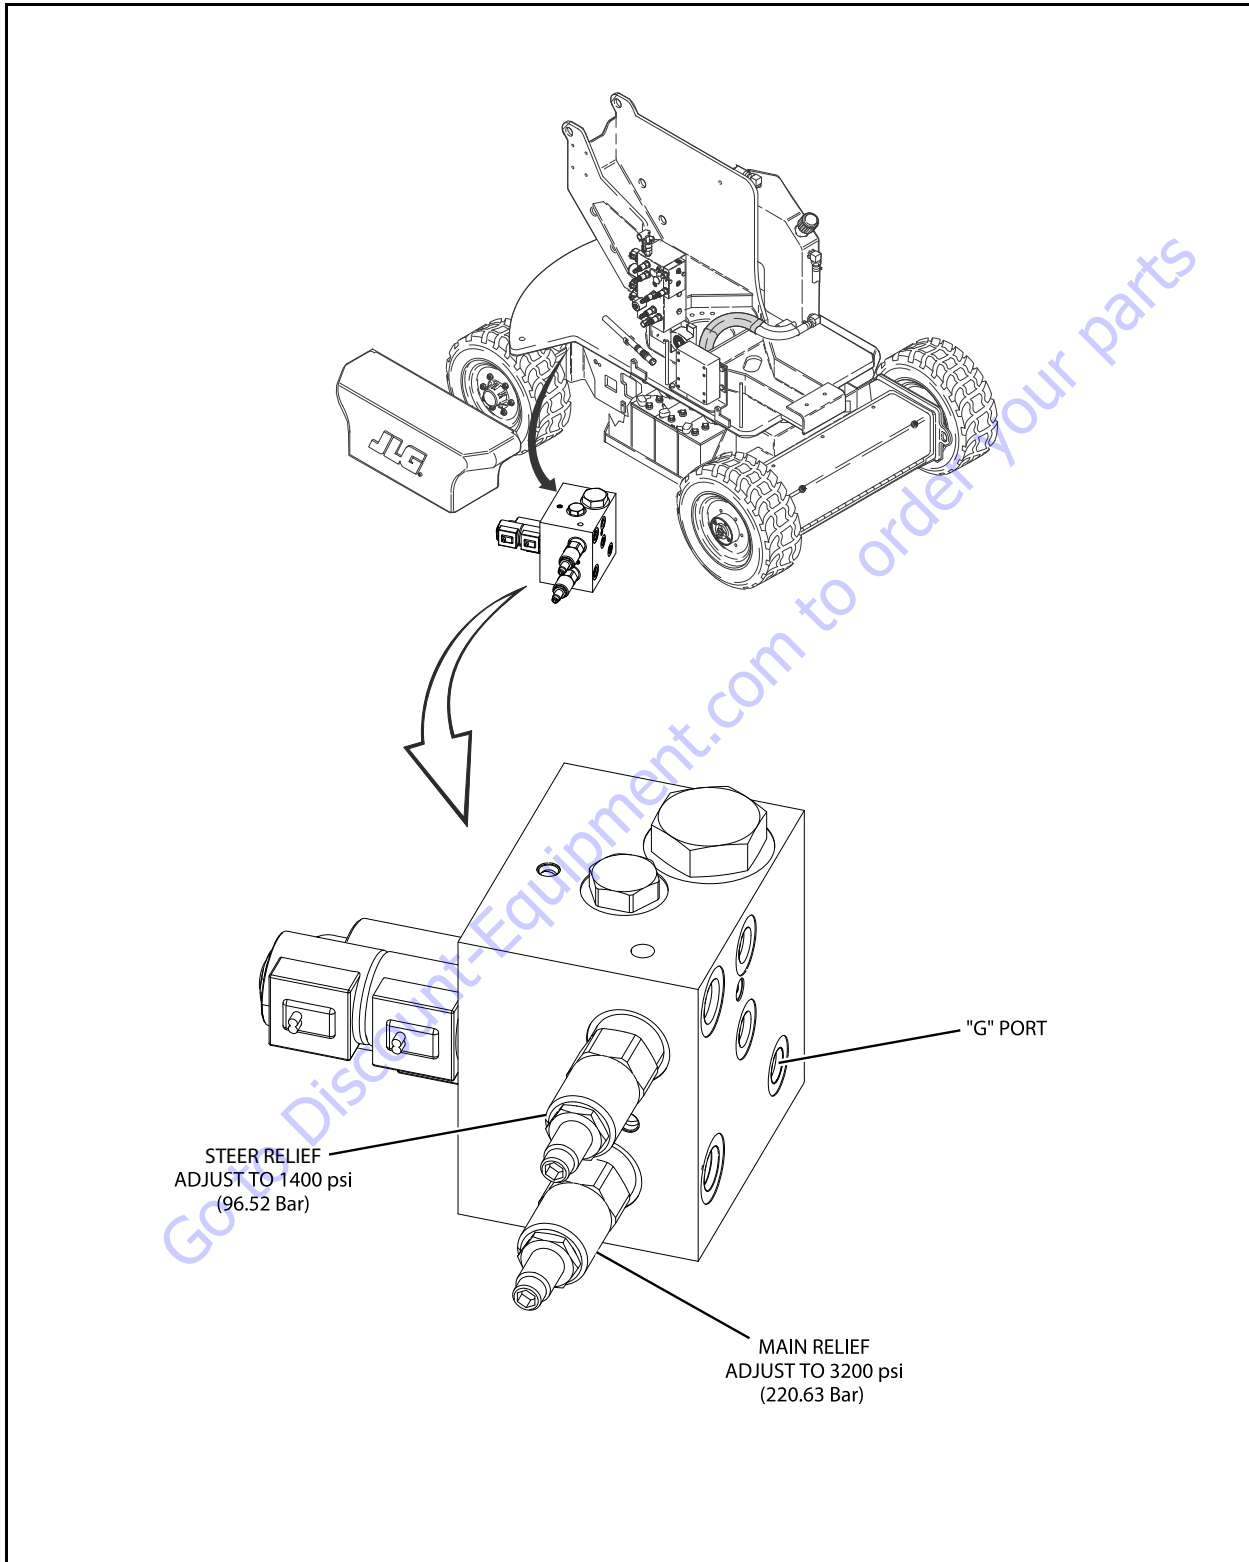

Figure 5-152. Steer Valve Pressure Adjustment
2. Activate and bottom out either Main or Lower Lift Up. Adjust Main Relief to value given in Figure 5-152., Steer Valve Pressure Adjustment.
2. Adjust Steer Relief to value given in Figure 5-152., Steer Valve Pressure Adjustment.